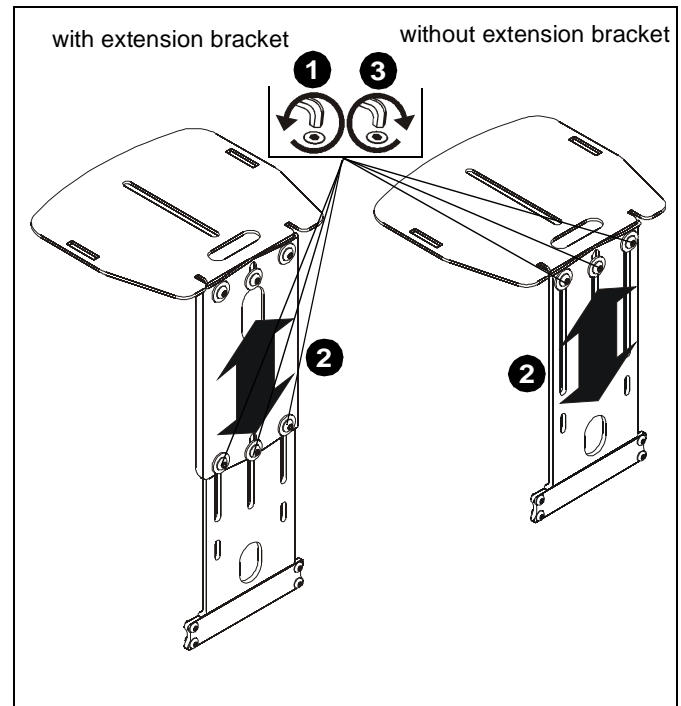

Figure 9
1. Loosen three 1/4-20 x 5/8" button head cap screws (F) holding extension bracket (B) or shelf (C) to attachment bracket (A). (See Figure 9)
2. Adjust height of shelf (C) as desired.
3. Tighten three 1/4-20 x 5/8" button head cap screws (F) holding extension bracket (B) or shelf (C) to attachment bracket (A). (See Figure 9)